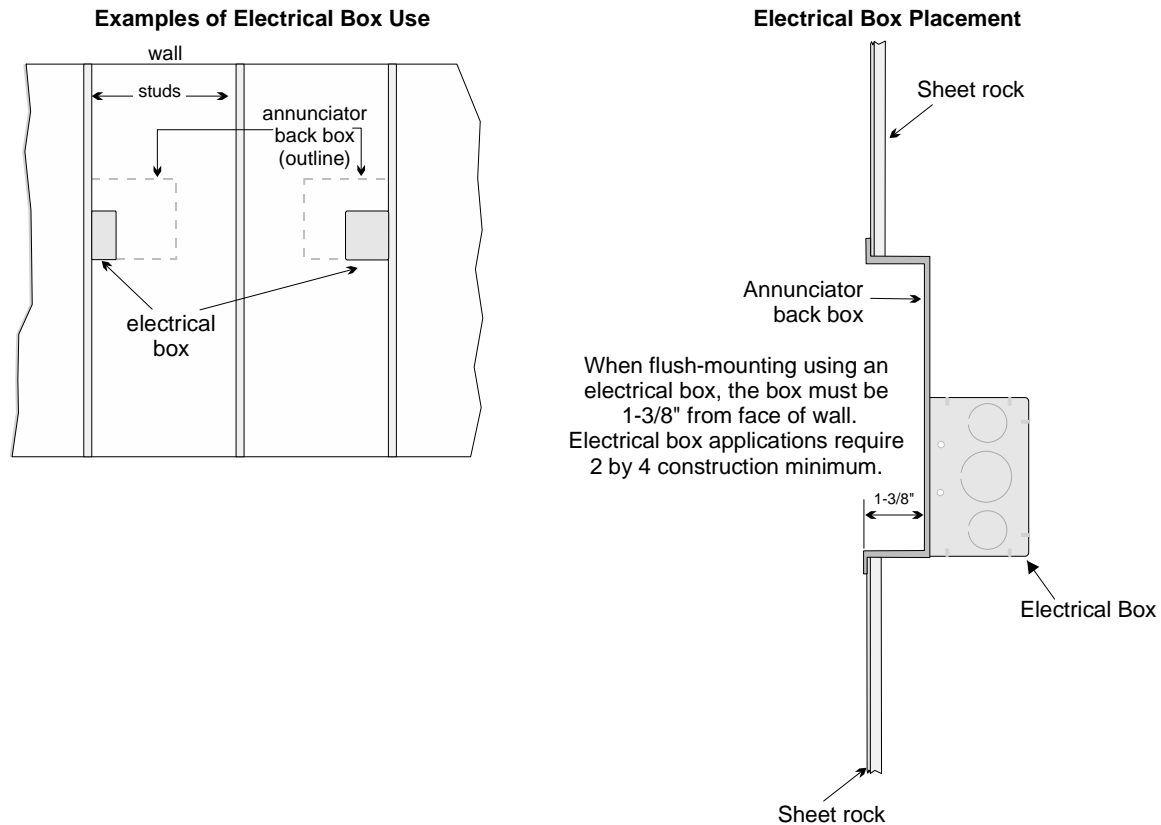

Figure 4-21 Placement of Electrical Box for Flush Mounting
1. Cut a hole in the sheet rock to the following dimensions: 8-1/4" w x 6-5/8" h. If an electrical box is used, the box must be 1-3/8" back from face of wall to accommodate the annunciator (see Figure 4-21).